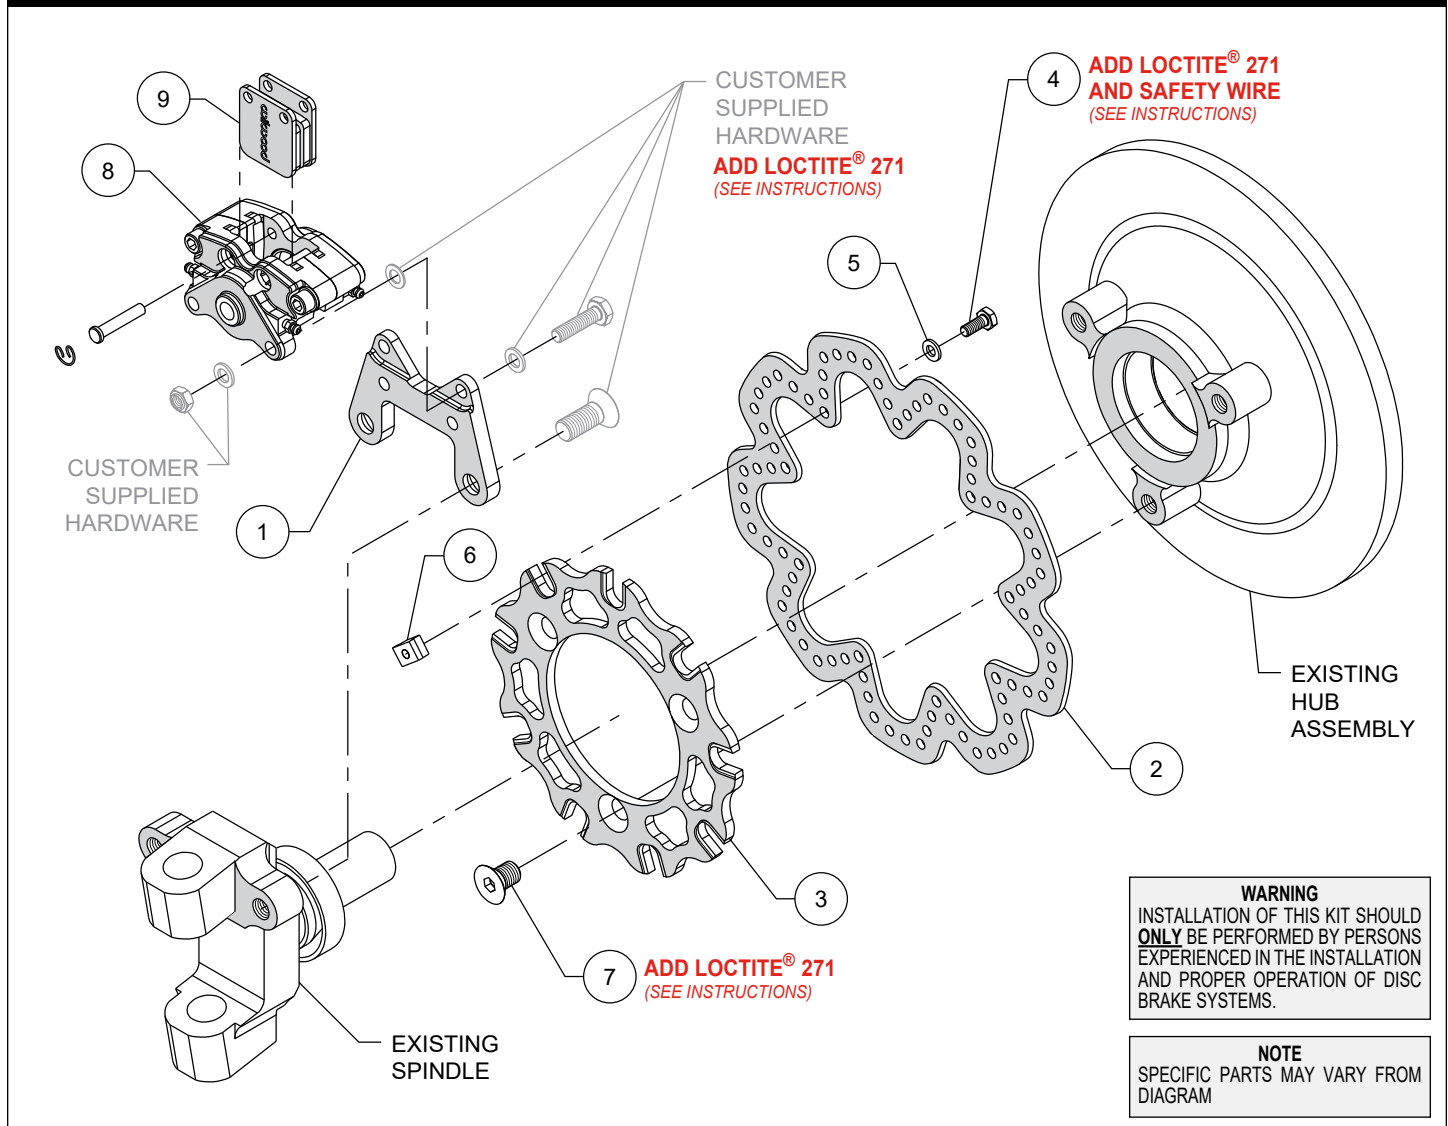
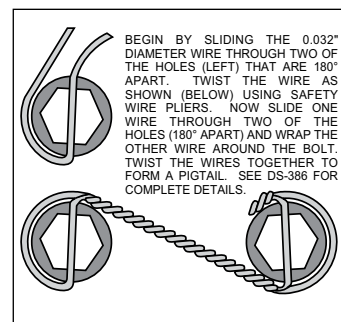

Figure 1. Typical Installation Configuration
Figure 2.
NOTE: Numbers in parenthesis refer to the parts list and Figure 1 on the preceding pages. **CAUTION:** All mounting bolts must fully engage threaded holes. Some bolt hardware to be supplied by customer.
- Orient the caliper mounting bracket (1) as shown in Figure 1, and install using customer supplied bolts. **NOTE:** The bracket must fit squarely against the mount bosses on the spindle. Inspect for interference from machining ridges, burrs, etc. Remove bolts one at a time, apply red *Loctite*® 271 to the threads and torque to spindle manufacturer's specifications.
- Orient the rotor adapter (3), as shown in Figure 1, (with the notched t-nut slots facing inboard) and mount to the rotor (2) using bolts (4), washers (5), and t-nuts (6). Apply red *Loctite*® 271 to the bolt threads and torque to 120 **in-lb**. Safety wire bolts using standard 0.032 inch diameter stainless steel safety wire as shown in Figure 2. Please refer to Wilwood's data sheet DS-386 (available at www.wilwood.com/Pdf/DataSheets/ds386.pdf) for complete safety wire installation instructions.
- Mount the rotor/adapter (2 and 3) to existing hub assembly using bolts (7). Apply red *Loctite*® 271 to bolt threads and torque to 80 ft-lb.
•Orient the caliper (8), as shown in Figure 1, and install using customer supplied fasteners. Temporarily tighten the bolts and view the rotor through the top opening of the caliper. The rotor should be centered in the caliper. If not, adjust by adding or subtracting shims between the bracket and the caliper. Always use the same amount of shims on each of the two mounting bolts. Once the caliper alignment is correct, remove the nuts one at a time, apply red *Loctite*® 271 to the threads, and tighten securely.
•Remove the two pad retaining pins from the caliper by carefully popping out the pin retaining clips and sliding out the pins. Insert the brake pads (9) into the caliper (8) as shown in Figure 1, with the friction material facing the rotor. Secure the brake pads in place by reinstalling the pad retaining pins and clips.